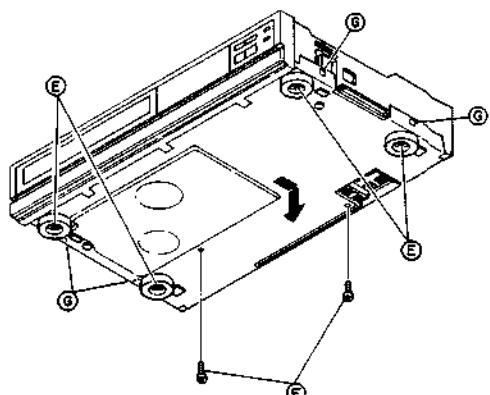

Fig. 1-1-3
2. Refer to Fig. 1-1-3 and take out 4 screws **(E)** and 2 screws **(F)** from the bottom of the chassis.